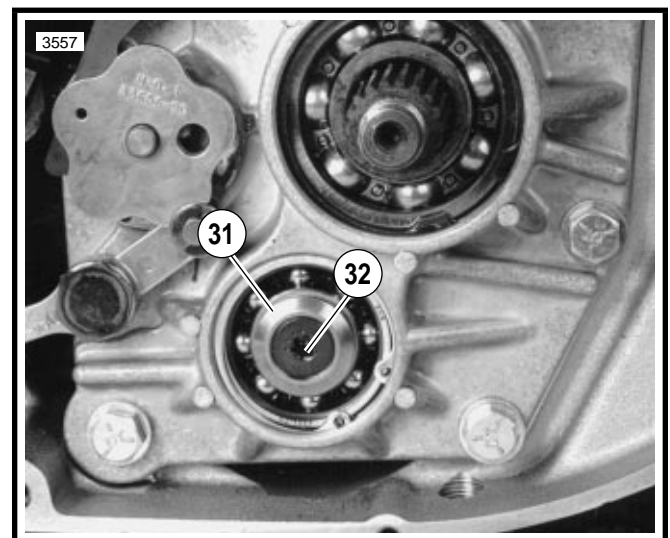

Figure 6-34.
19. See Figure 6-34. At outside of access door, position retention collar (31) next to end of countershaft with beveled side facing outward. Apply a few drops of LOCTITE THREADLOCKER 242 (blue) to the threads of TORX screw (32). Insert TORX screw (32) through retention collar, and thread into end of shaft. Place transmission in gear, and tighten TORX screw to 13-17 ft-lbs (18-23 Nm).